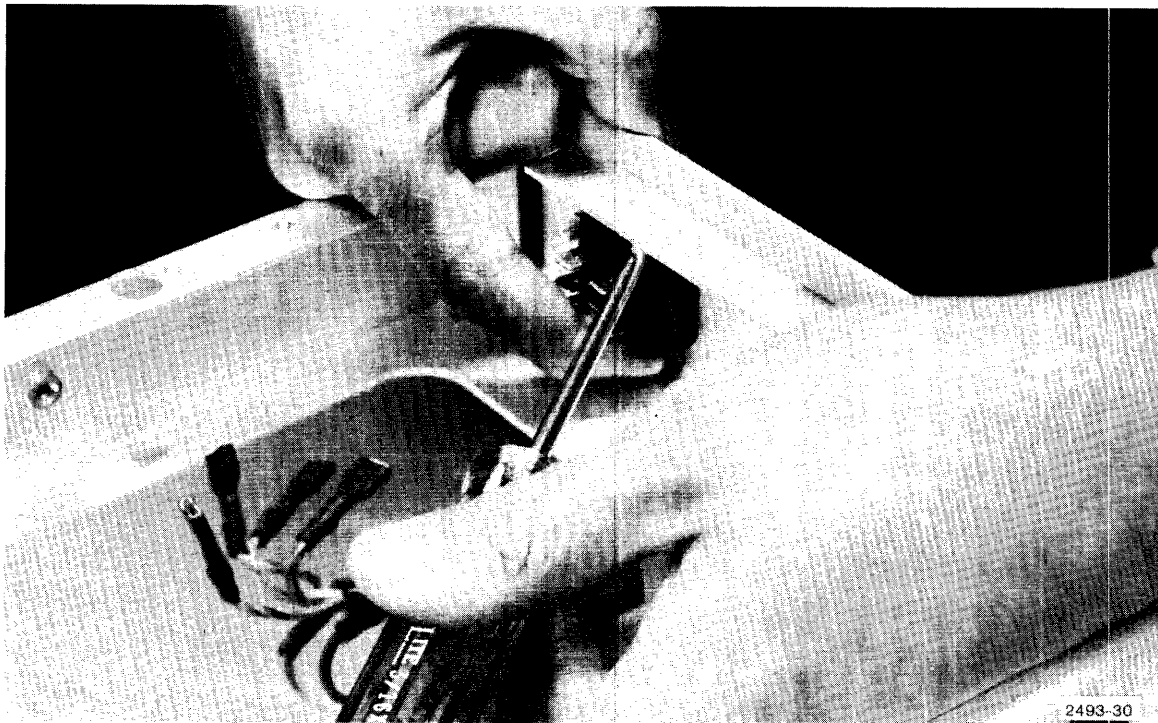

Figure 7-4. Removing power switch.
- h. Remove power switch by pressing towards front of panel (Figure 7-4).